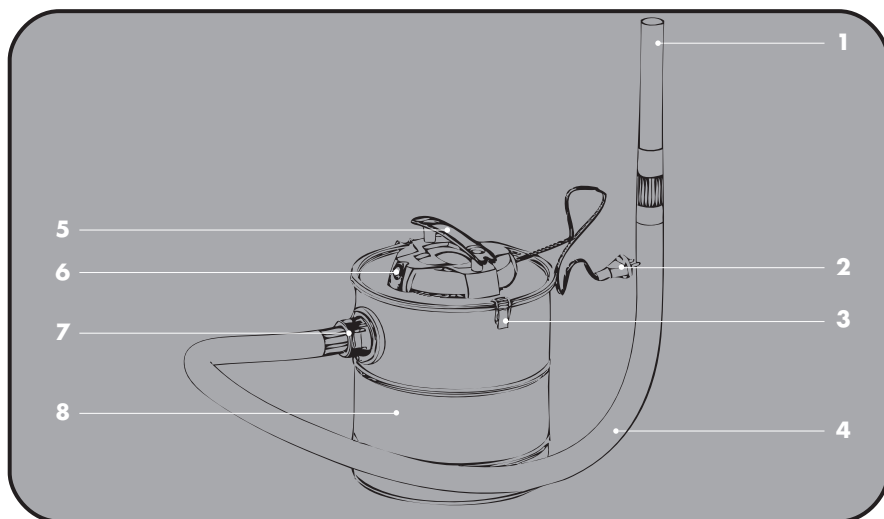

Fig. 1: Appliance overview
2. Then put the container cover back on and close this using the fastener hooks attached on the sides (see Fig.1, No. 3)
3. Insert the end of the suction hose (see Fig. 1, No. 4) in the inlet opening. The hose is secured by turning it clockwise.
4. Then insert the suction tube (see Fig. 1, No. 1) onto the suction hose (see Fig. 1, No. 4). Unwind the power cord (see Fig. 1, No. 2) fully to start up the appliance.
1. Set the ON/OFF switch (see Fig. 1, No. 6) to position 0.
2. Pull the mains plug (see Fig. 1, No. 2) out of the socket.